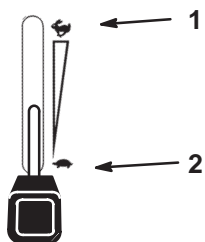

Figure 16
- Push the PTO to off (Fig. 16).
- Move the throttle lever midway between the slow and fast positions (Fig. 16).